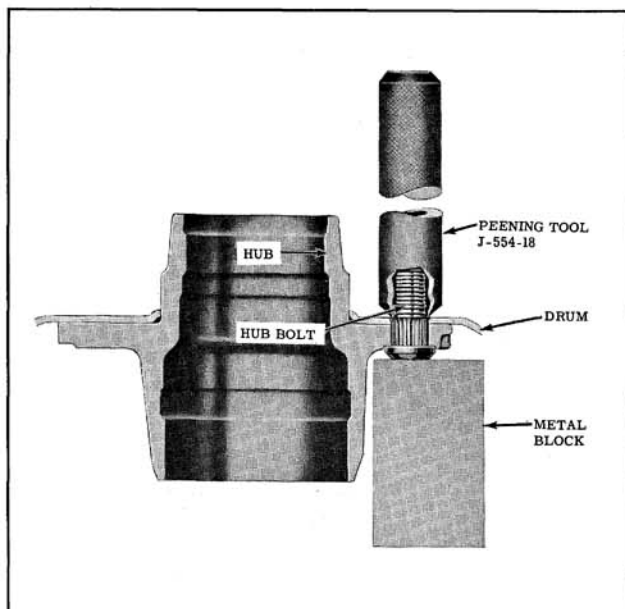

Fig. 9-6 Peening Hub Bolt
4. While supporting hub bolt, peen hub bolt into the countersunk area of drum with the use of Peening Tool J-544-18 until the drum is secure to the hub. (Fig. 9-6)